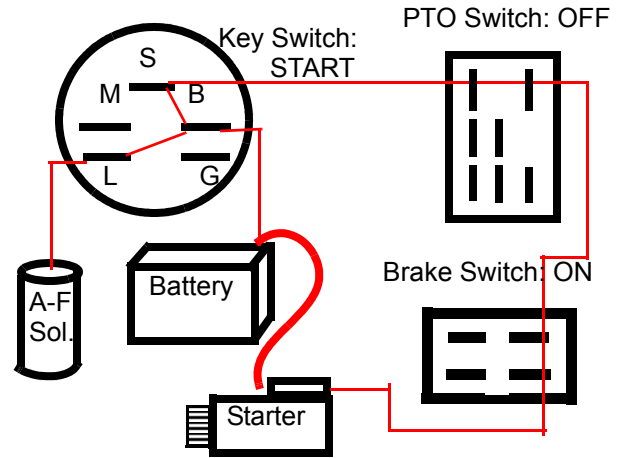

Figure 29.1
29.1. With the key in the START position, terminals B, S, and L are connected within the switch. See Figure 29.1.